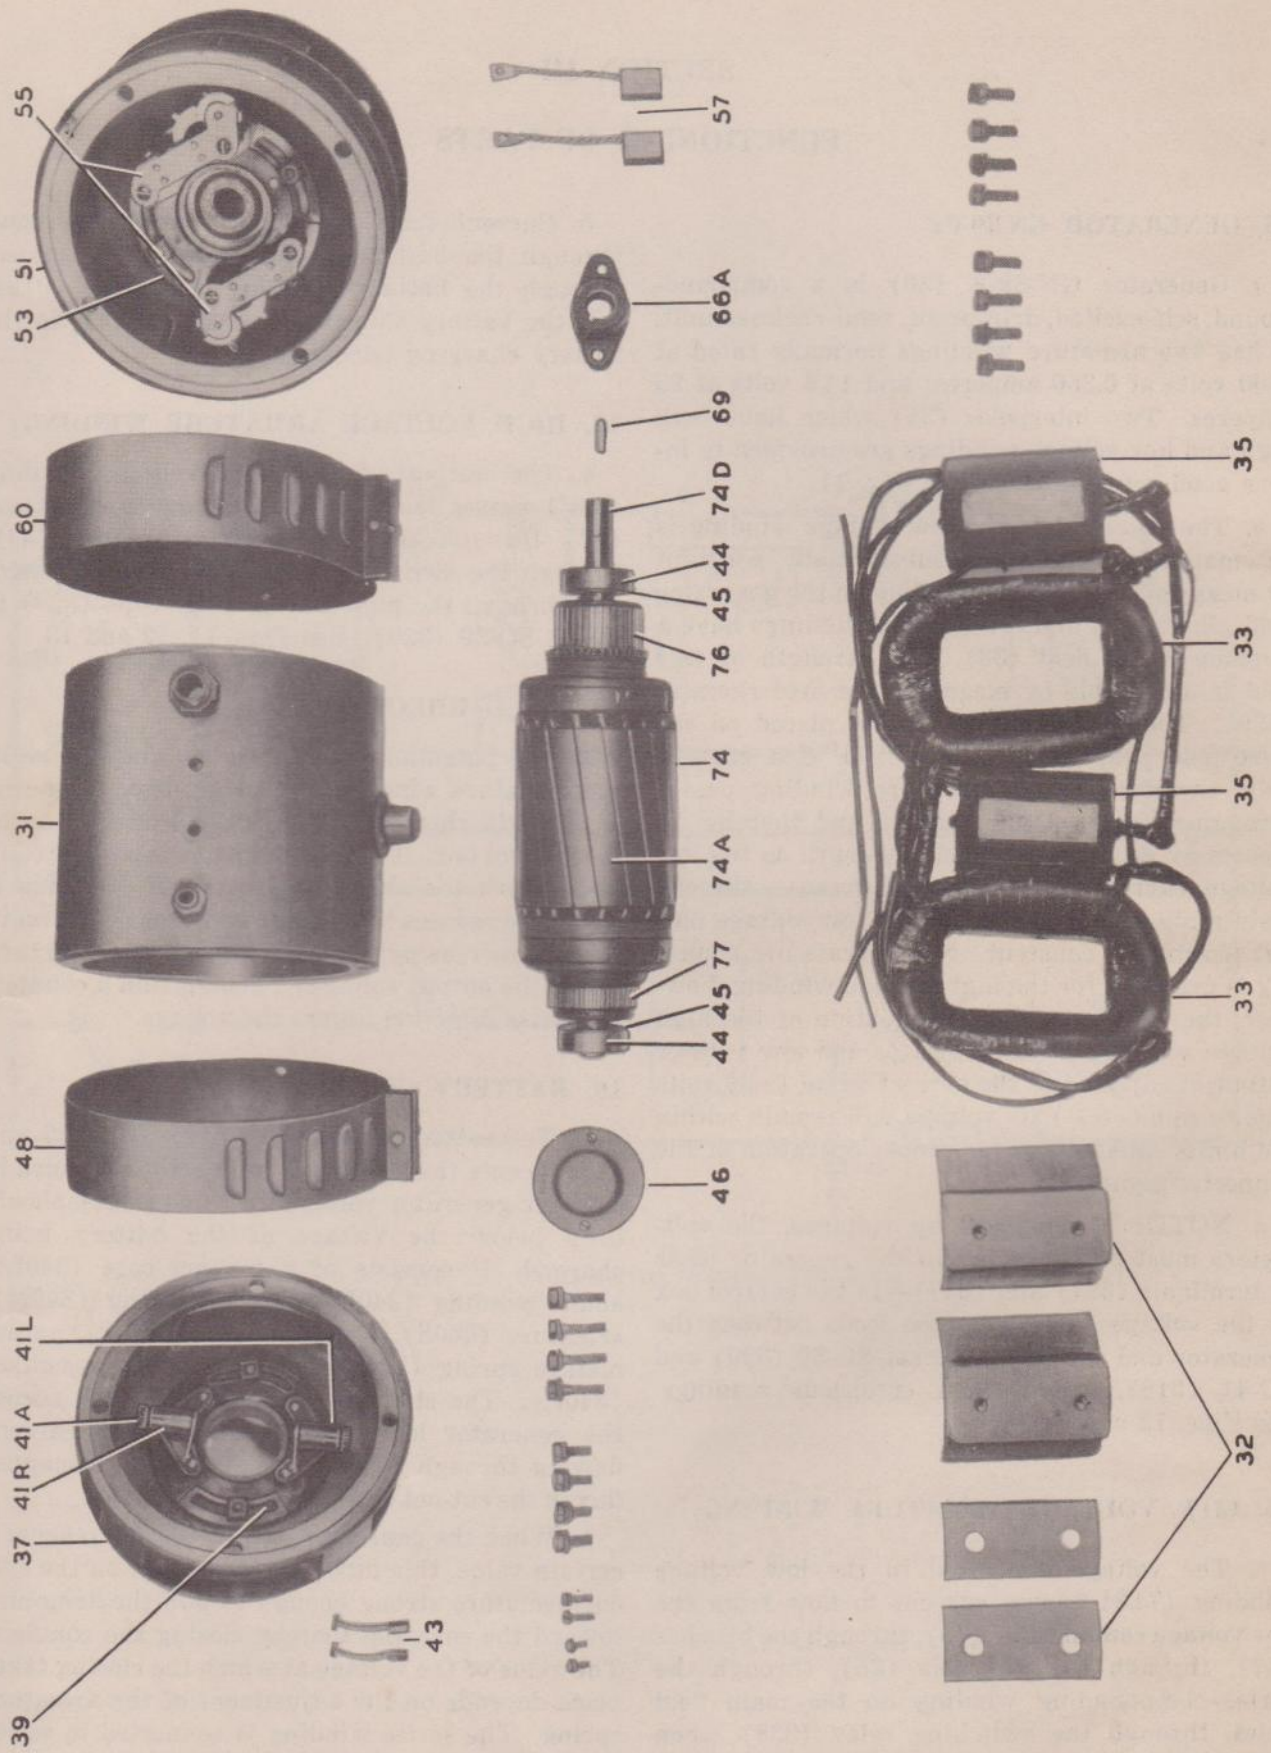
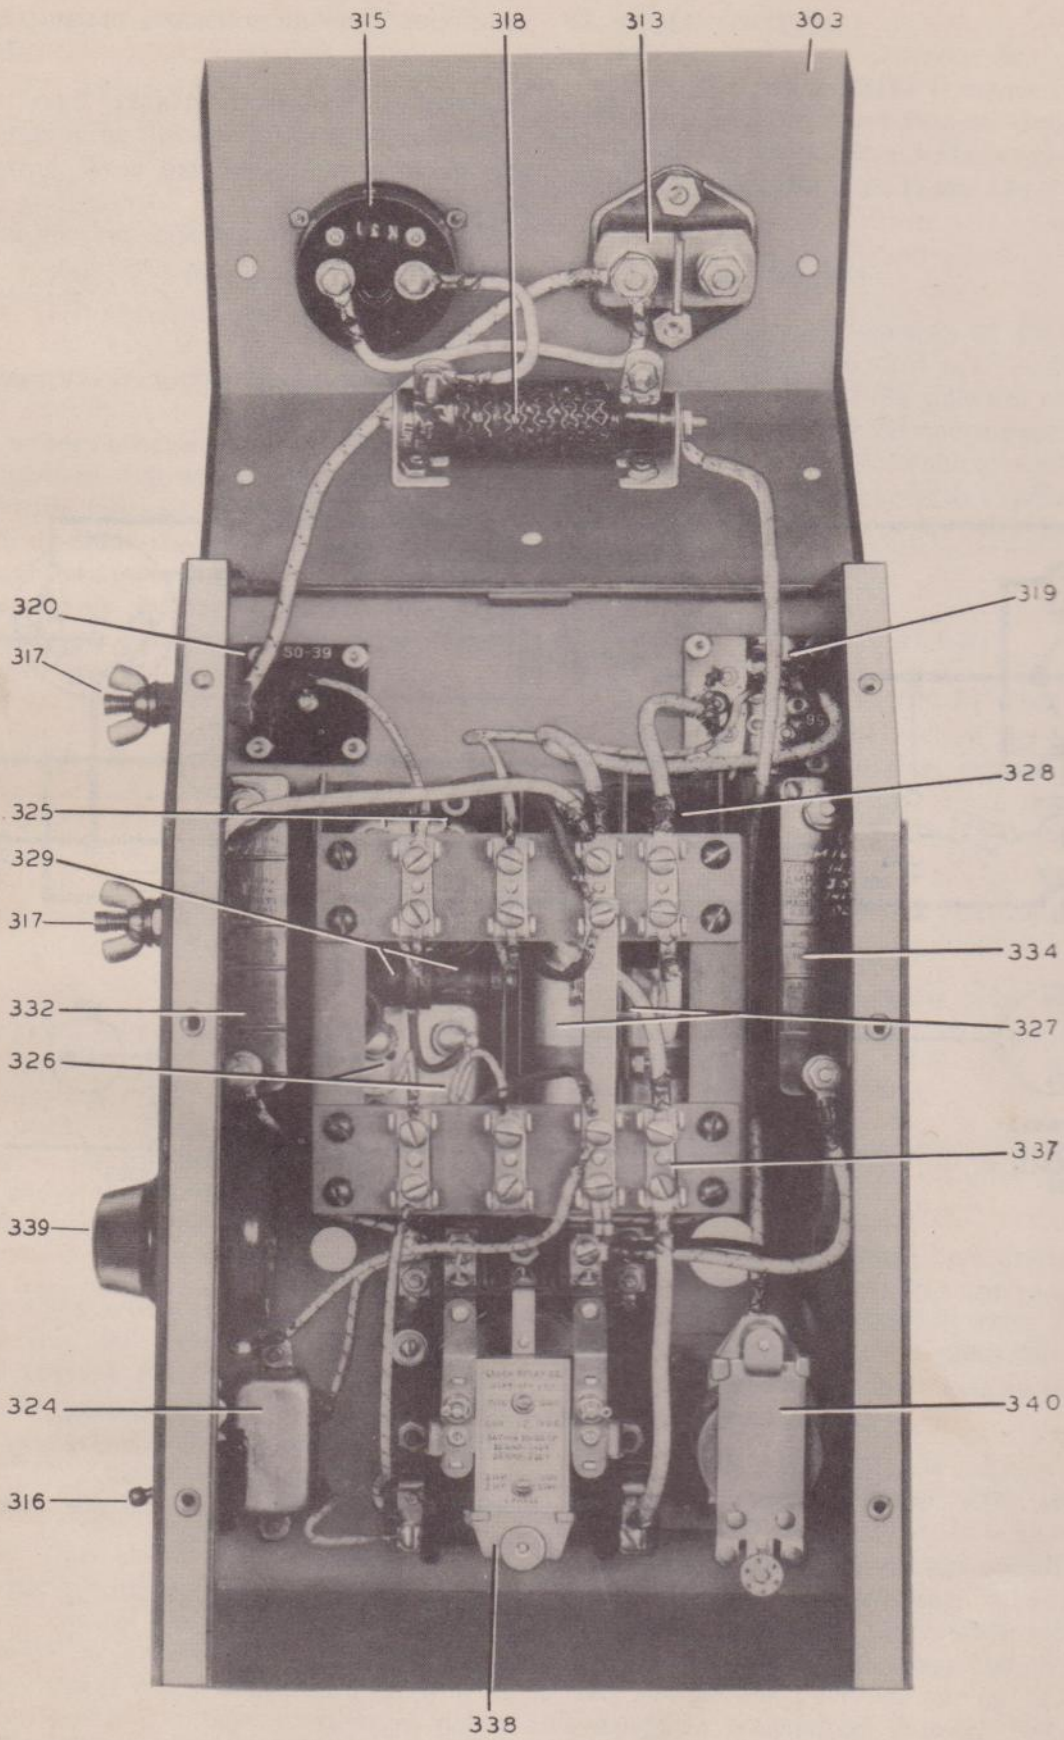

FIG. 11 GENERATOR GN-39-F—DISASSEMBLED
FIG. 13 CONTROL BOX WITH FRONT COVER REMOVED AND TOP COVER RAISED
*a.* Generator GN-39-F (30) is a compound-wound, self-excited, drip-proof, semi-enclosed unit. It has two armature windings normally rated at 1000 volts at 0.350 amperes; and 14.6 volts at 25 amperes. Two interpoles (35) which have both high and low voltage windings are provided to insure good commutation. See Fig. 11.
*b.* The potential of the low voltage winding is automatically maintained substantially constant by means of a compound winding on the generator field. Both high and low voltage windings have a common shunt field (33). The strength of this field is adjustable by means of the field rheostat (339). The compound winding is placed on the same field poles as the shunt field. The current from the low voltage armature winding passes through this compound winding and thereby increases or decreases the field strength as the low voltage current increases or decreases, thereby maintaining the potential of the low voltage output practically constant. No separate compounding is provided for the high voltage winding, however, the inherent voltage regulation of the high voltage winding is such that as the low voltage output is adjusted to the correct value (14.6 volts plus or minus 5%) its voltage will remain within the limits satisfactory for proper operation of the connected equipment.
*c.* NOTE: When checking voltages, the voltmeters must be connected to the generator leads at terminals (337) and (317)—in the control box as the voltage "drops" in the leads between the generator and the output socket SO-39 (320) and SO-41 (319), would cause erroneous readings. See Figs. 13 and 14.
*a.* The voltage generated in the low voltage winding (74B) causes current to flow from the low voltage commutator (76), through the brushes (57), through the interpole (35), through the series compounding winding on the main field poles, through the switching relay (338) when closed, through the low voltage filter coil (328) to socket SO-41 (319). See Figs. 11 and 12.
*b.* Current from the same source also flows through the battery cutout (340) when closed, through the battery charging resistance (318), and the battery charging ammeter (315), to the battery charging terminals (317).
*a.* The output of the high voltage winding (74C) passes from the high voltage commutator (77) through the high voltage brushes (43), through the switching relay (338), when closed, and through the high voltage filter coils (329) to socket SO-39 (320). See Figs. 11, 12 and 13.
*a.* The battery cut-out (340), see Figs. 13 and 16, prevents the generator from being damaged in case the generator voltage for some reason should drop below the voltage of the battery being charged. It consists of a magnet core (340L), shunt winding (340K), series winding (340M), armature (340S), with a contact (340P), an armature spring (340N), and a stationary contact (340Q). The shunt winding is connected across the generator low voltage output. The current flowing through this winding produces a magnet flux in the cut-out core.
*b.* The switching relay (338), see Figs. 13 and 17, opens and closes the high and low voltage circuits to the filter. It is controlled from the transmitter operating position by means of a switch on the junction box. Only current passing through the sockets SO-39 (320) and SO-41 (319) are controlled by the switching relay. The battery charging circuit is independent of these circuits.
*a.* The battery charging resistor (318), see Fig. 13, is a .25 ohm, 100 watts resistance connected in series with the battery charging circuit. Its function is to limit the current drawn from the low voltage armature winding to a safe value in case a completely discharged or short circuited battery should be connected to the battery charging terminals (317).
*a.* The field switch (316) is connected in series with the generator shunt field winding (33) and the generator will produce voltage only when this switch is closed. See Figs. 11 and 12.
a. Grease sealed ball bearings (44) are used with lubricating grease sealed in at the time of manufacture. The space in the bearing housings (37) and (51) is, in addition, filled about one-third full with a supply of reserve grease. This insures a sufficient supply of lubricant for several years of operation. The action of this type of bearings is such that it siphons the lubricant through its seals from this reserve supply as needed. See Fig. 11.
b. Whenever the Generator GN-39-F (30) is disassembled the bearing housings should be repacked one-third to one-half full with clean New York and New Jersey Lubricant Company S-58 grease, or equal.
d. THE BEARING HOUSINGS (37) AND (51) SHOULD NOT BE FILLED MORE THAN ONE-THIRD TO ONE-HALF FULL BECAUSE THE GREASE WILL CHURN DURING OPERATION AND CAUSE DANGEROUS HEATING. ALSO THE EXCESS GREASE WILL BE FORCED THROUGH THE BEARING SEALS ON TO THE COMMUTATORS (76) AND (77) AND WINDINGS WITH HARMFUL RESULTS.
e. WHEN DISASSEMBLING GENERATOR GN-39-F FOR ANY REASON DO NOT WASH THE LUBRI-SEAL BEARINGS (44) IN ANY KIND OF SOLVENT OR KEROSENE AS THIS
a. ALWAYS OPEN THE FIELD SWITCH (316) ON THE CONTROL BOX (300) BEFORE ATTEMPTING ANY WORK ON THE GENERATOR (30). DO NOT TOUCH THE COMMUTATORS (76) AND (77), BRUSHES (43) AND (57), BRUSH HOLDERS (41R), (41L) AND (55), WITH THE BARE HAND WHILE THE ARMATURE (74) IS REVOLVING WITH THE FIELD SWITCH CLOSED.
(1) To remove the high voltage brushes (43) remove the knurled brush screw caps (41A) and withdraw the brush assemblies from their cartridges (41R) and (41L). These brushes are complete assemblies of brush, shunt cable, spring and end plug and are removed and replaced as one piece. See Fig. 11.
d. The low voltage brushes (57) are removed by loosening the brush pigtail from the brush holders (55), lifting the brush holder pressure finger and pulling the brushes out of the brush holder box.